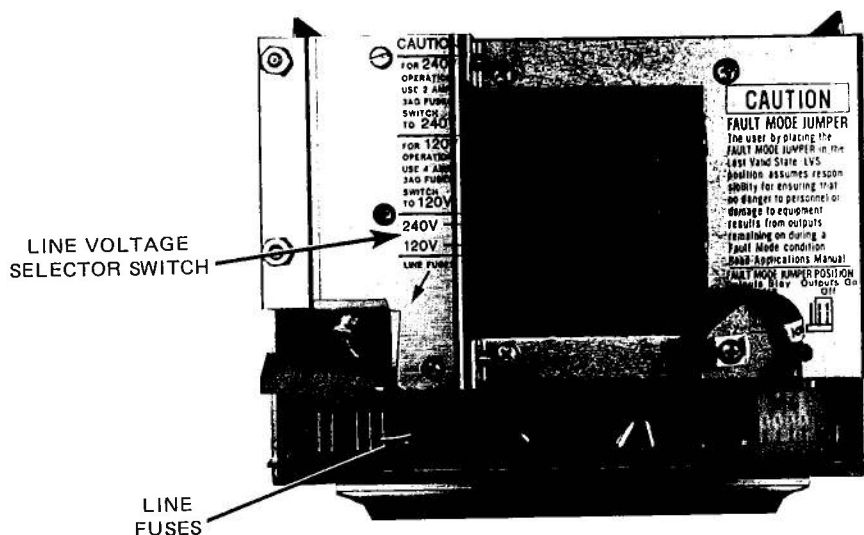

Figure 2-28. Version 2 Power Supply, Rear View
3. Remove the blown fuse(s). Figure 2-28 shows the fuse locations.
In PC-700 processors equipped with Version 2 power supplies, when a fault occurs, the processor stops scanning and the fault relay de-energizes. The state of all outputs in the system during this fault condition is determined by the Last Valid State/All OFF jumper. This jumper is located on the rear of the Version 2 power supply, as shown in Figure 2-28. This power supply is shipped from the factory with this jumper installed in the All OFF position.
In PC-700 processors equipped with Version 2 power supplies, to select 240 V operation, locate the selector, as shown in Figure 2-28, and make the desired selection. Before applying power, ensure that 2 A, 250 V, 3 AG fuses are installed in place of the 4 A, 250 V, 3 AG fuses used for 120 V operation.